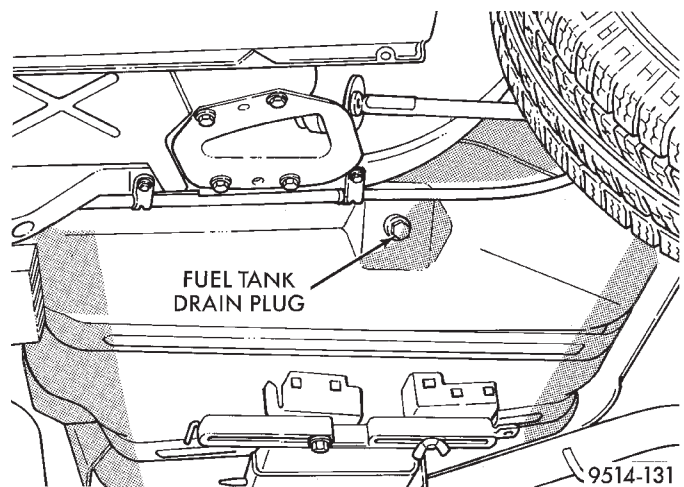

Fig. 10 Fuel Tank Drain Plug
- (1) Remove fuel cap slowly to release tank pressure.
- (2) With vehicle on a hoist, drain fuel from tank. Support fuel tank with a support such as a transmission jack stand.
- (3) Position a fuel approved container, with a capacity of at least 16 gallons, under the drain plug located on the bottom left edge of the tank.
- (4) Remove drain plug and allow fuel to drain (Fig. 10).